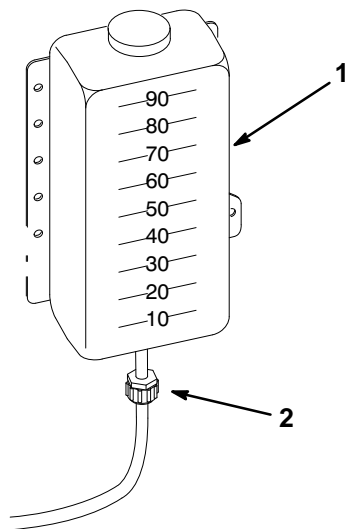

Figure 18
1. Remove the drain hose connector from the bottom of the chemical tank (Fig. 18).
3. Replace the drain hose connector on the bottom of the chemical tank (Fig. 18).
- A. Remove the drain hose connector from the bottom of the chemical tank (Fig. 18).